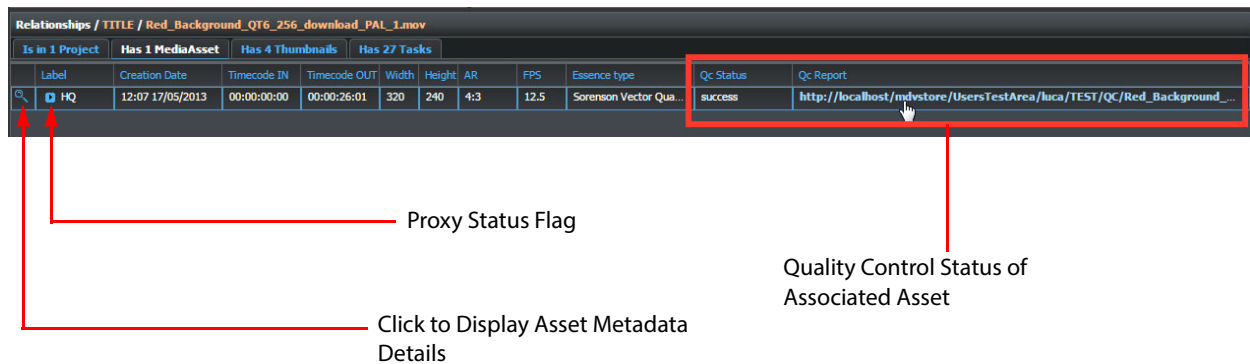

Fig. 8-191: Relationships - Media Assets Tab
Any media assets which are associated with the selected item in the search results appear in a **Media Assets** tab as shown in Figure 8-191:
- **Qc Status:** The quality check status of the related asset, highlighted in Figure 8-191.
- **Qc Report:** Active link to the quality check report on the related asset, highlighted in Figure 8-191.